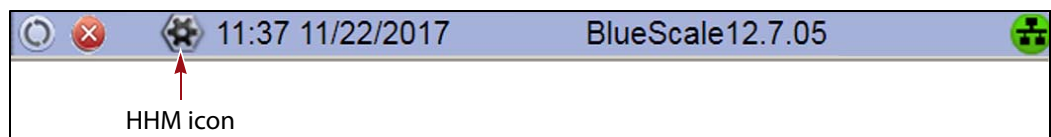

Figure 175 The HHM icon is located on the status bar.
3. Click the HHM icon on the status bar (see Figure 175 on page 324). The Hardware Health Monitoring screen displays.